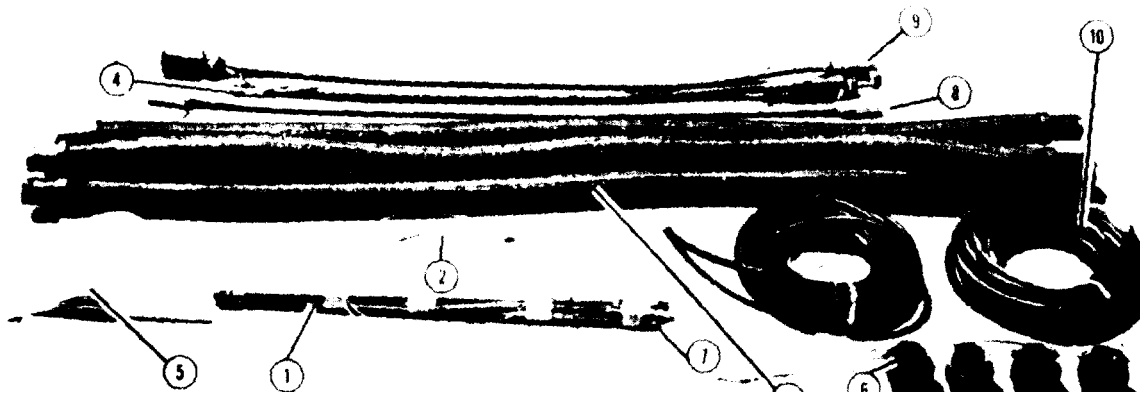

Figure 8. PACKED ITEMS, TOOL BOX.
10. Installation of Separately Packaged and Packed Components (Fig. 8)
- 2. Connect (1) fuel hose (Fig 8, Item 10) to piping and fuel supply. This is the supply line.